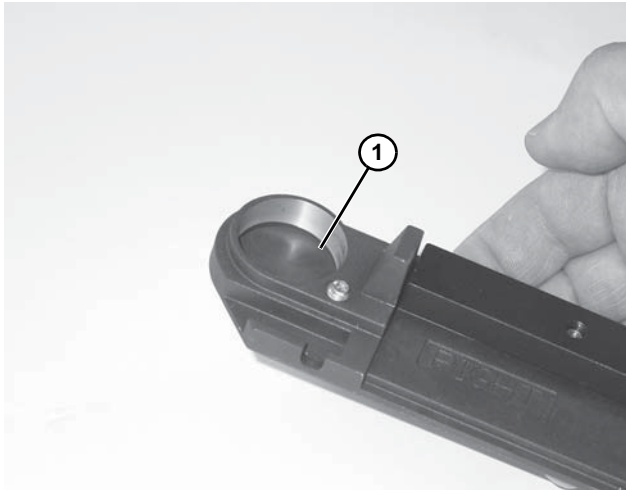

Figure 39
1. Inspect the head plates bearing seating surface (**Figure 39, item 1**). If they are worn or damaged, replace. See “Service Parts” on page 24.